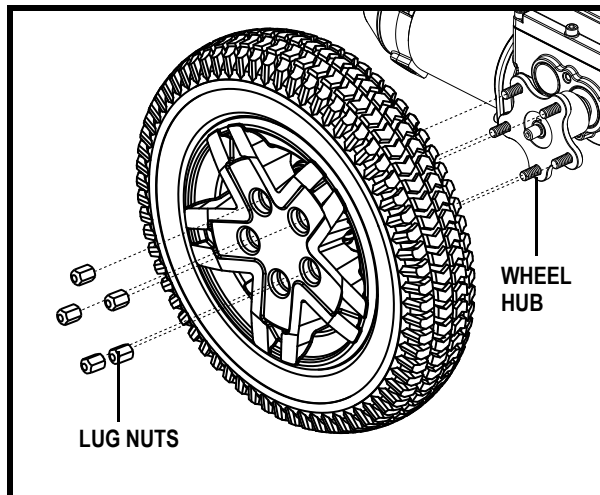

Figure 19. Q6 Series Drive Wheel
4. Remove the (5) lug nuts from the wheel hub. See figure 19.